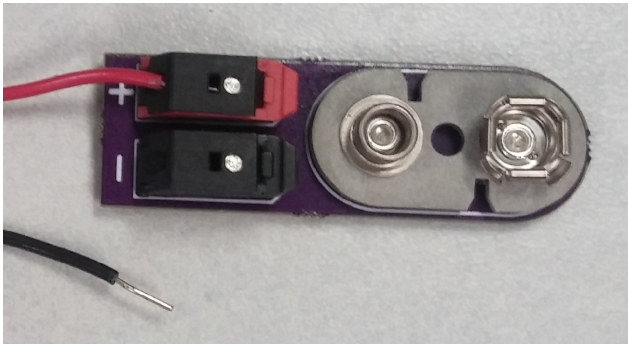

Figure 3: Snap connector
- b. Plug adapter (fig. 3)
5. Attach the wires to the adapter (fig. 3) by pressing down the lever, inserting the bare wire, and releasing the lever.